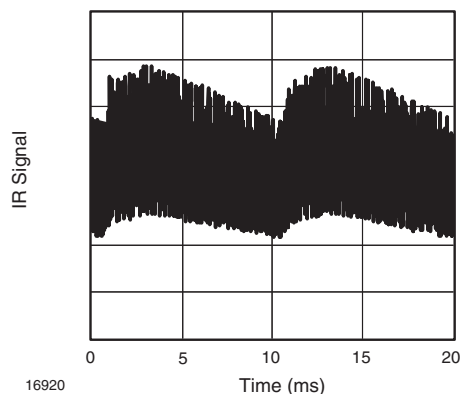

Fig. 14 - IR Disturbance from Fluorescent Lamp with Low Modulation
- Strongly or weakly modulated patterns from fluorescent lamps with electronic ballasts (see Fig. 14 or Fig. 15)